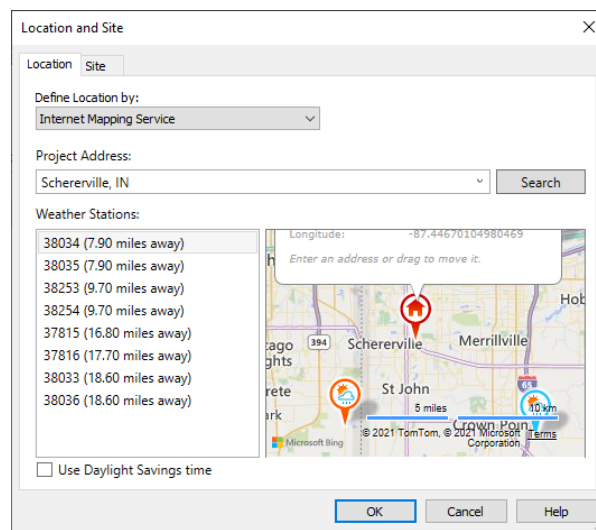

Figure 2-32 The Location and Site dialog box
- In the **Location** tab of the **Location and Site** dialog box, enter **Schererville, IN** in the **Project Address** edit box and then choose the **Search** button; the **Bing Map** browser is displayed under the **Project Address** edit box showing the desired location in the map, as shown in Figure 2-32.